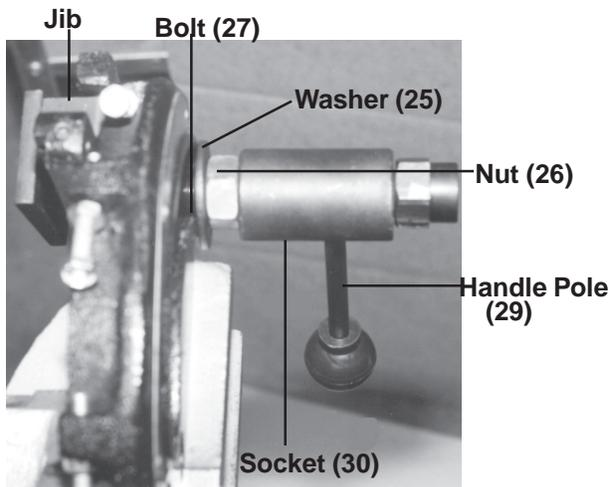

Figure 5
Step 1) Insert the Fence Plate (#18) through the hole in the Cross Slide Plate (#19). Insert Washer (#25) and Nut (#26) onto Bolt (#27). Add Washer and slide Bolt (#27) through Plate (#18). Attach the Handle Pole (#29) and Socket (#30) over the Nut. Attach Cap (#31) and tighten into place-see Figures 5, 6 and 7.